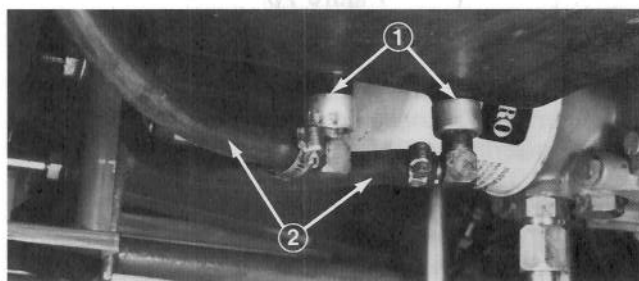

Figure 68
7. Loosen clamps holding both fuel lines on fuel tank fittings. Pull lines off fittings and allow gasoline to flow into large gas can (Fig. 68).
2. Push fuel lines onto fuel tank fittings (Fig. 68). Tighten clamps to secure the lines on the fittings.